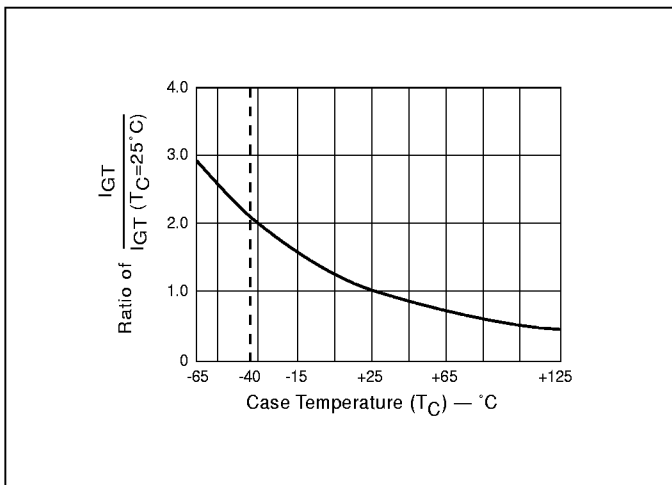

Figure 4.8 Normalized DC Gate Trigger Current for all Quadrants vs Case Temperature
- See Figure 4.8 for  $I_{GT}$  vs  $T_C$ .